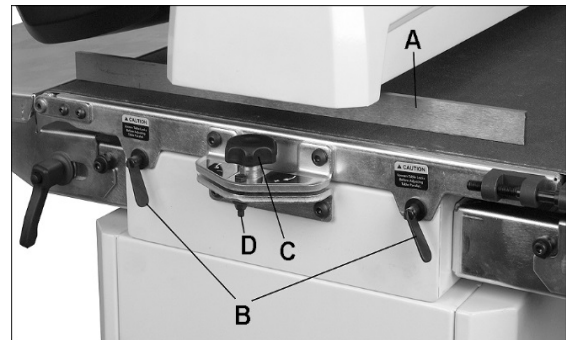

Figure 8-4: drum alignment
3. Insert gauge between drum and conveyor table at outboard side of drum (A, Figure 8-4).
3. If a ridge is visible where the drum overlaps, loosen both table locks (B, Figure 8-4) and lower table at outboard end slightly by turning knob (C).
Note: When sanding narrow stock (560mm or less), return conveyor table to parallel position. Turn knob opposite direction until lock nut (D, Figure 8-4) is contacted. The lock nut provides a positive stop for table parallelism.